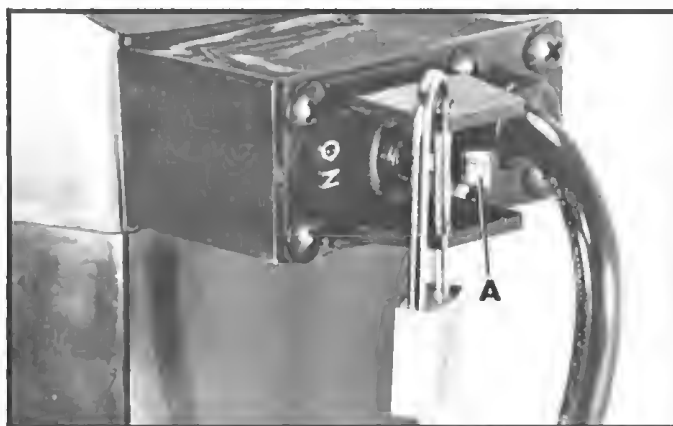

Fig. 26
We suggest when the machine is not in use, the switch (A) be locked in the "OFF" position with a padlock, as shown in Fig. 26.